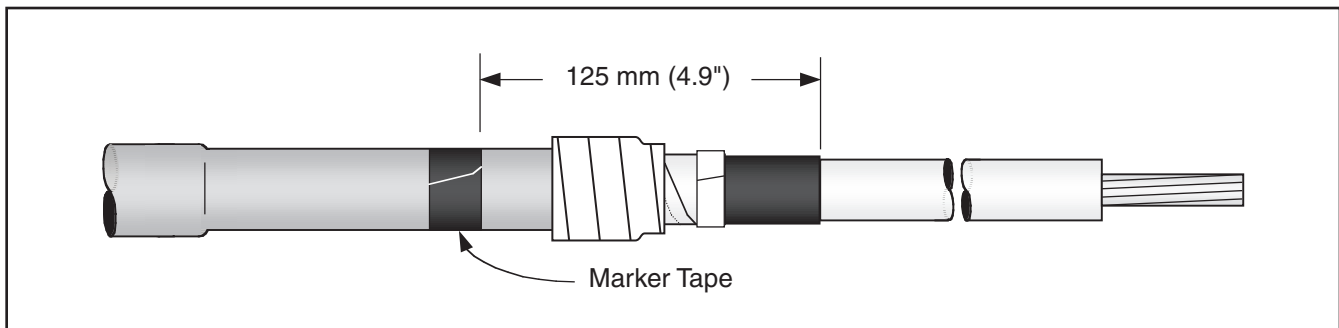

Figure 12
5.4 Place a termination installation marker tape 125 mm (4.9") back from semi-con leading edge as shown (*Figure 12*).